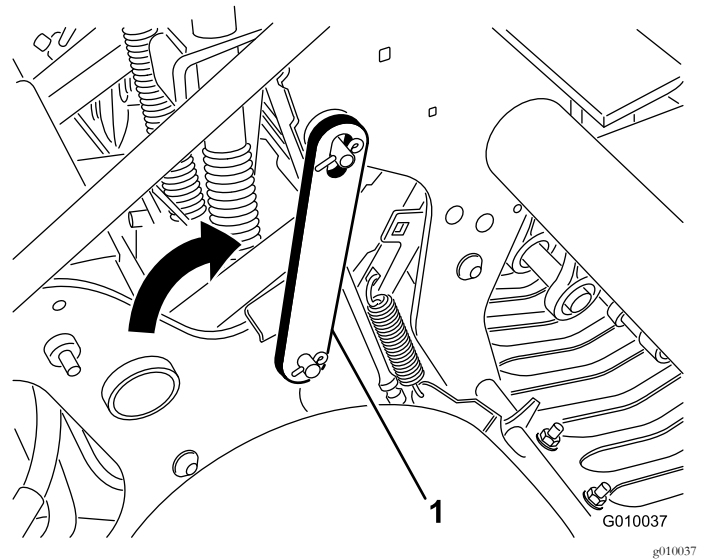

Figure 21
4. Pivot the service latch rearward and insert it onto the coring head pin (Figure 21). Secure it with the clip ring.